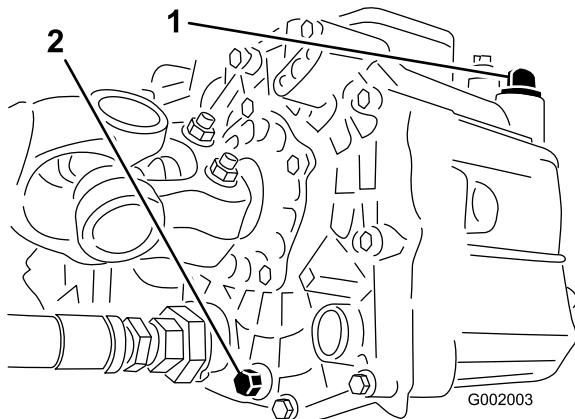

Figure 67
- Remove the drain plug from the side of the reservoir and let the hydraulic fluid flow into the drain pan (Figure 67).